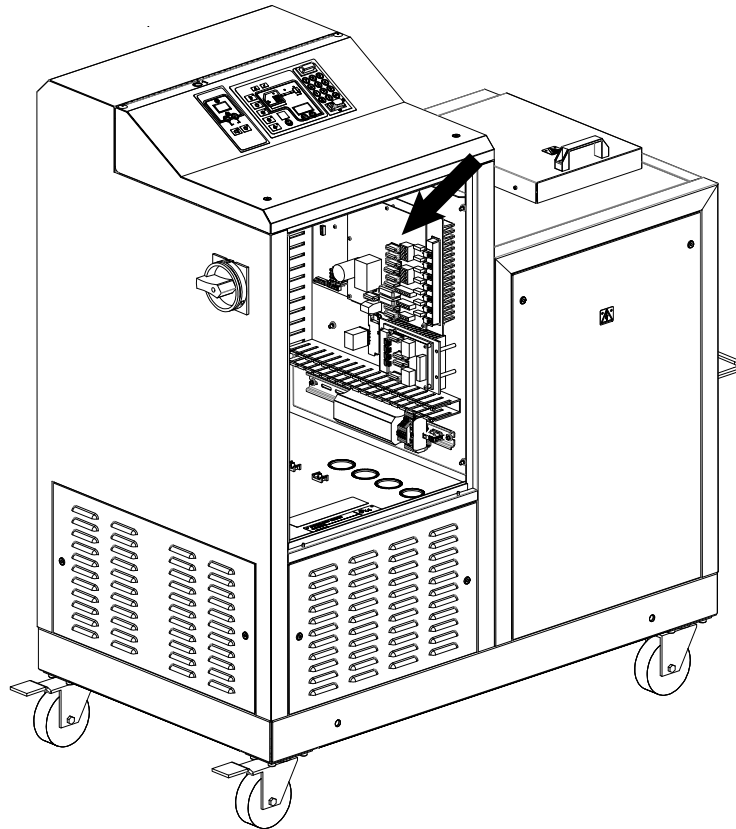

Figure 5-11 Location of the main PCA board
3. See Figure 5-11. Open the electrical enclosure access panel and locate the main PCA board.